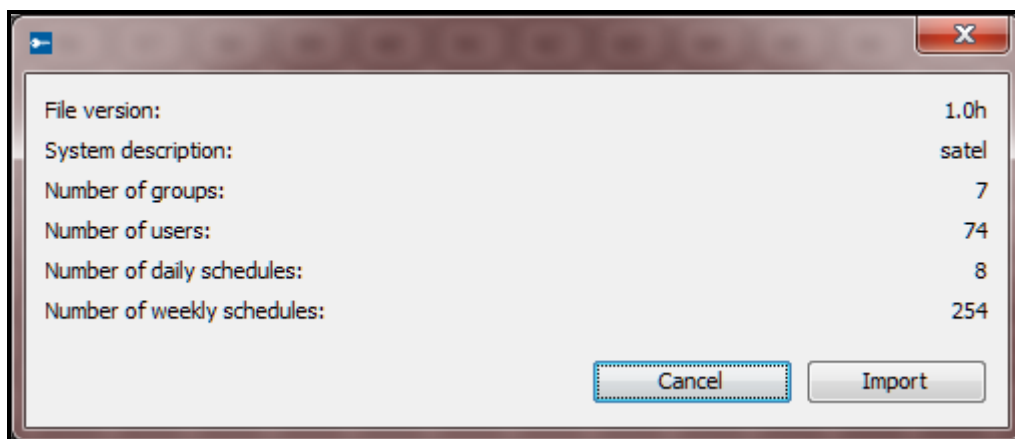

Fig. 38. Window with information on data imported from the ACCO-SOFT-LT program.
8. Window with information on imported data will open (see: Fig. 38). Click on the "Import" button to start the data import procedure. After completion of the procedure, a message will be displayed to inform you about it.
**Continue** – click to confirm the entered data. A window with information on the data imported from the ACCO-SOFT-LT program will open (see: Fig. 38).